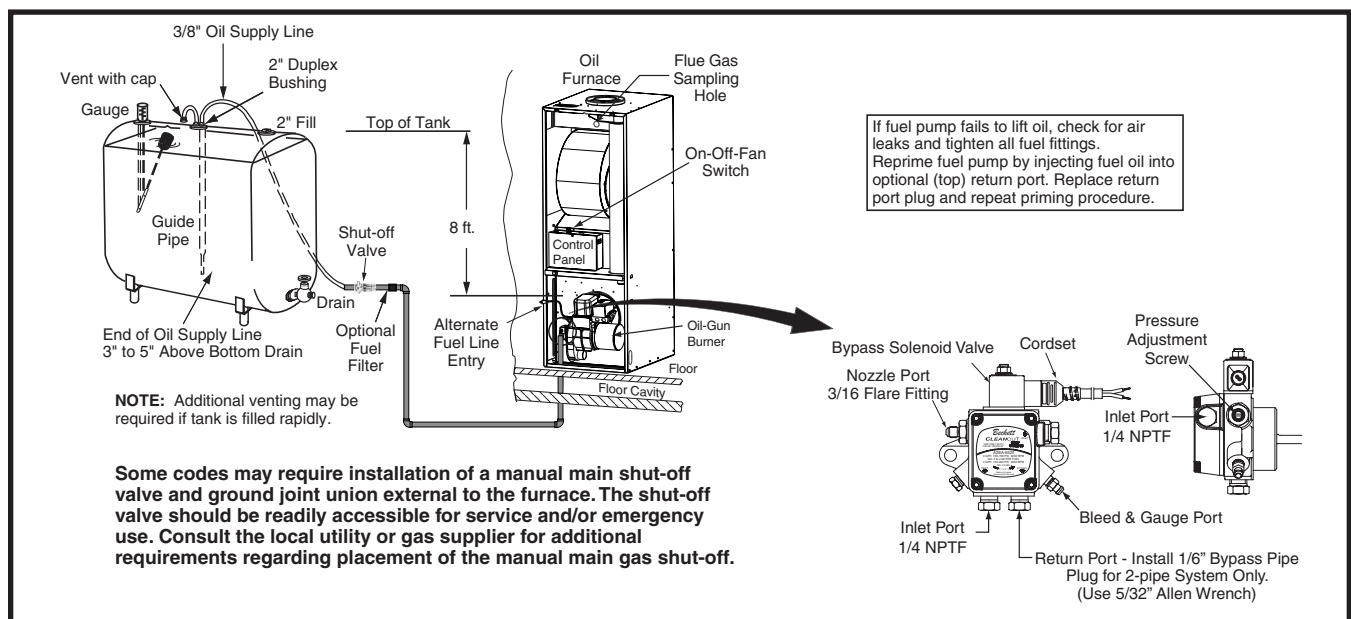

Figure 27. Typical Oil Piping for Above Ground (Single-Line) Supply
- A fuel or tank gauge is recommended for easy checking of the fuel level. Check the gauge reading with a dipstick. See Figure 27.
The One-Line System is highly recommended where vertical lift, from bottom of tank to pump, is less than 8 feet. See Figure 27. A single line hookup has the advantage of lower cost and quieter operation.
2. Install duplex bushing for two 3/8" lines in the top fitting of the tank. See Figure 27.